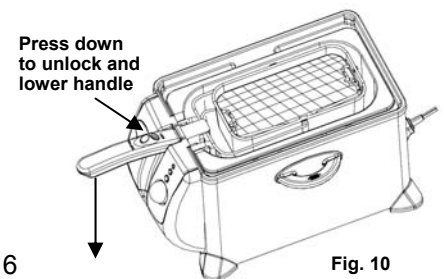

Fig. 10
- Depress the auto-lift button that is on the handle of the frying basket to unlock the handle and the frying basket will lower into the oil. (Fig. 10)